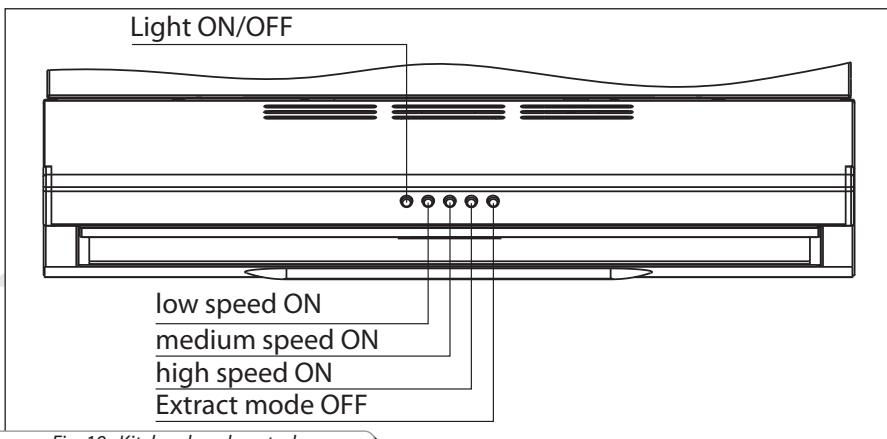

Fig. 19. Kitchen hood control
■ Press the respective speed button (low, medium or high speed, fig. 19) to turn the kitchen hood on. The kitchen hood has priority over the control panel, i.e. the control panel is not active when the kitchen hood is on.
■ Press the respective button to turn the kitchen hood off, see fig. 19. After turning the kitchen hood off the unit reverts to the operation mode set from the control panel.